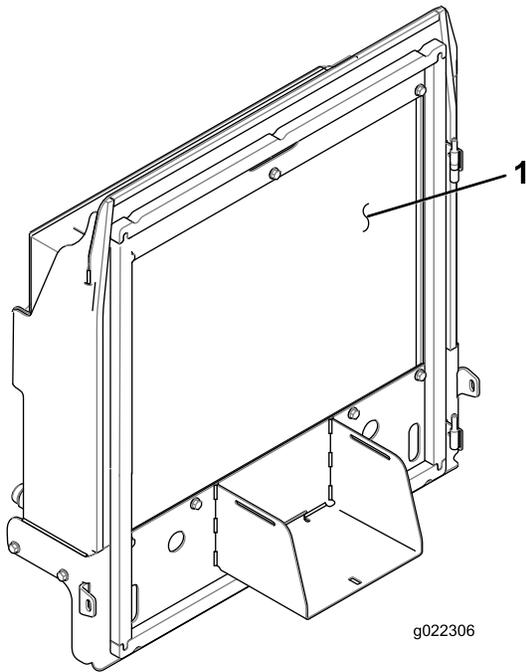

Figure 70
4. Thoroughly clean both sides of the and the radiator/oil cooler (Figure 70) with compressed air.